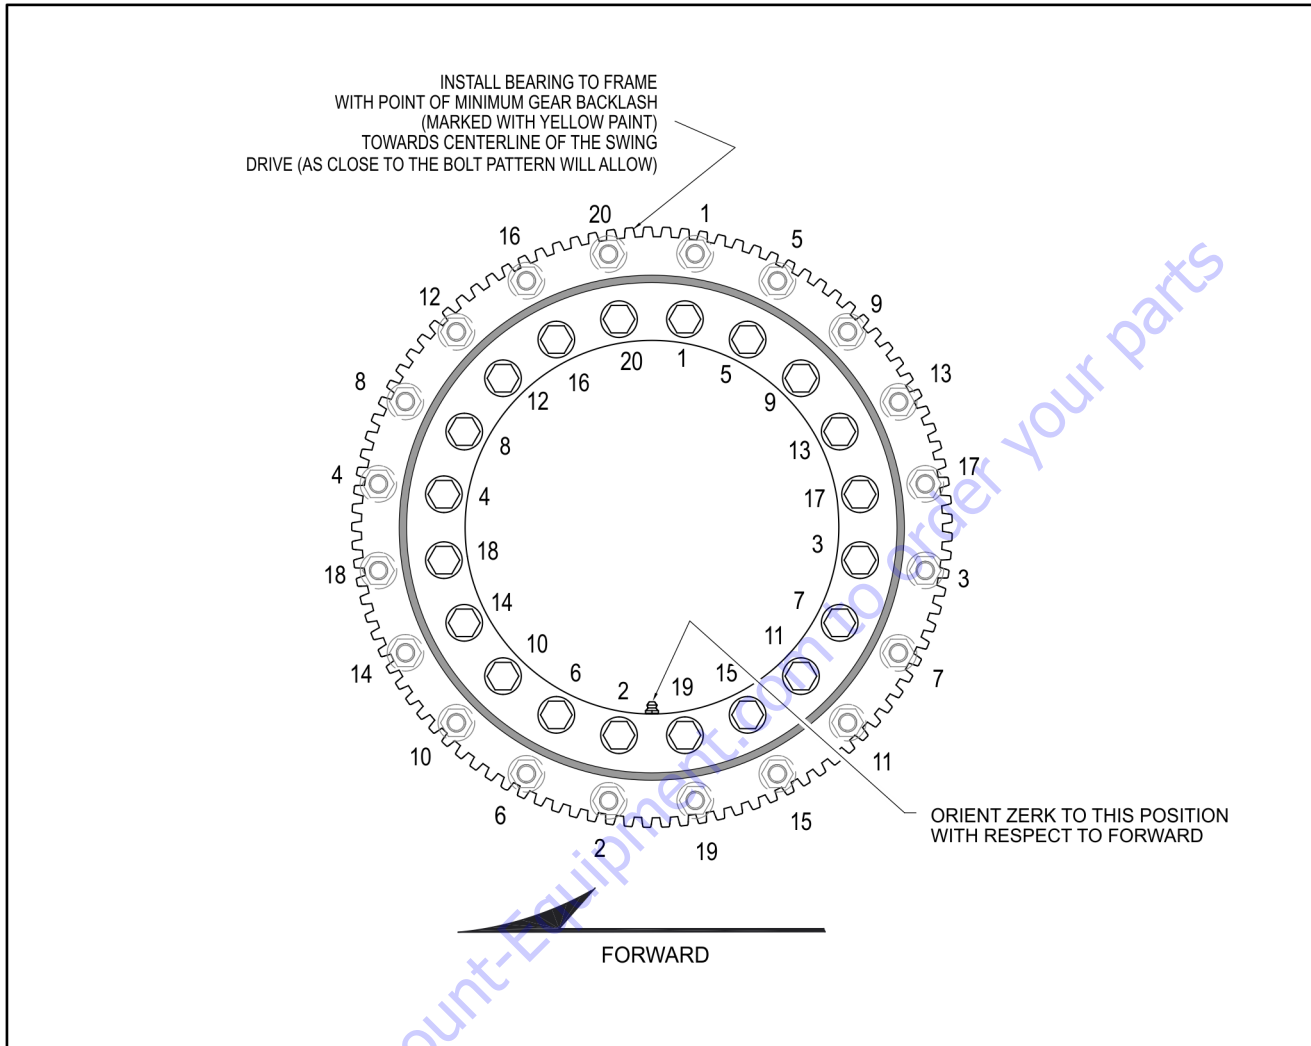

Figure 3-51. Swing Bearing Torque Sequence
3. Refer to the Torque Sequence diagram as shown in Figure 3-51., Swing Bearing Torque Sequence. Clean any residue off the new bearing bolts, then apply a light coating of High Strength Threadlocking Compound and install the bolts and washers through the frame and outer race of the bearing. Tighten the bolts to an initial torque of 190 ft. lbs. (258 Nm) w/High Strength Threadlocking Compound.
8. Following the Torque Sequence diagram shown in Figure 3-51., Swing Bearing Torque Sequence, tighten the bolts to a torque of 190 ft. lbs. (258 Nm).